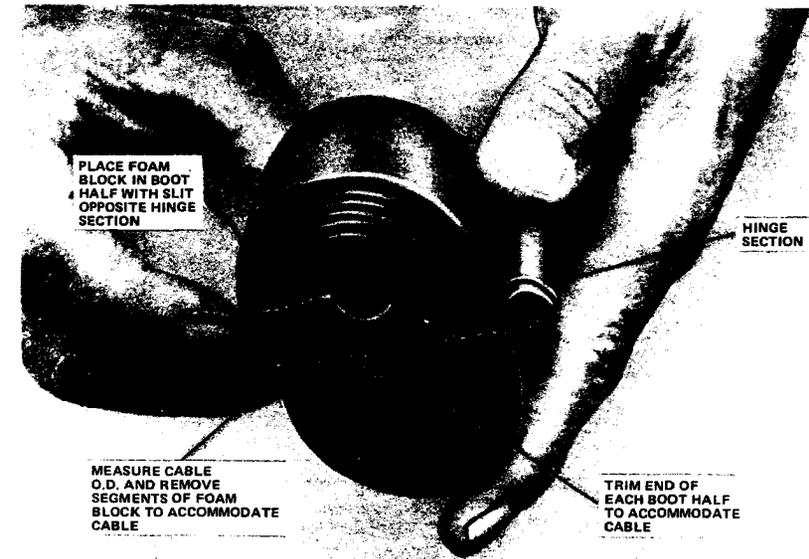

Fig. 22—Preparing Foam Block
4.14 Measure the diameter of the cable sheath and remove the necessary segments of the foam blocks to accommodate the cable diameter (Fig. 22). Measure and trim the end of each boot half to accommodate the cable and place the foam blocks in the boot halves (Fig. 22). *Make sure the foam block is positioned with the slit opposite the hinge section.*